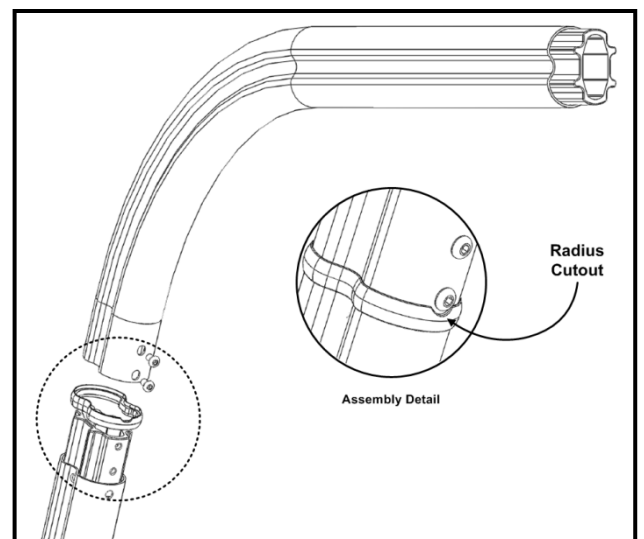

Fig. 9
9. Slide a beauty ring onto each lower handrail section (Fig. 9) and mount the upper handrail by loosely threading two button head cap screws in place. Verify that the radius cutout clears the lower securing screw.